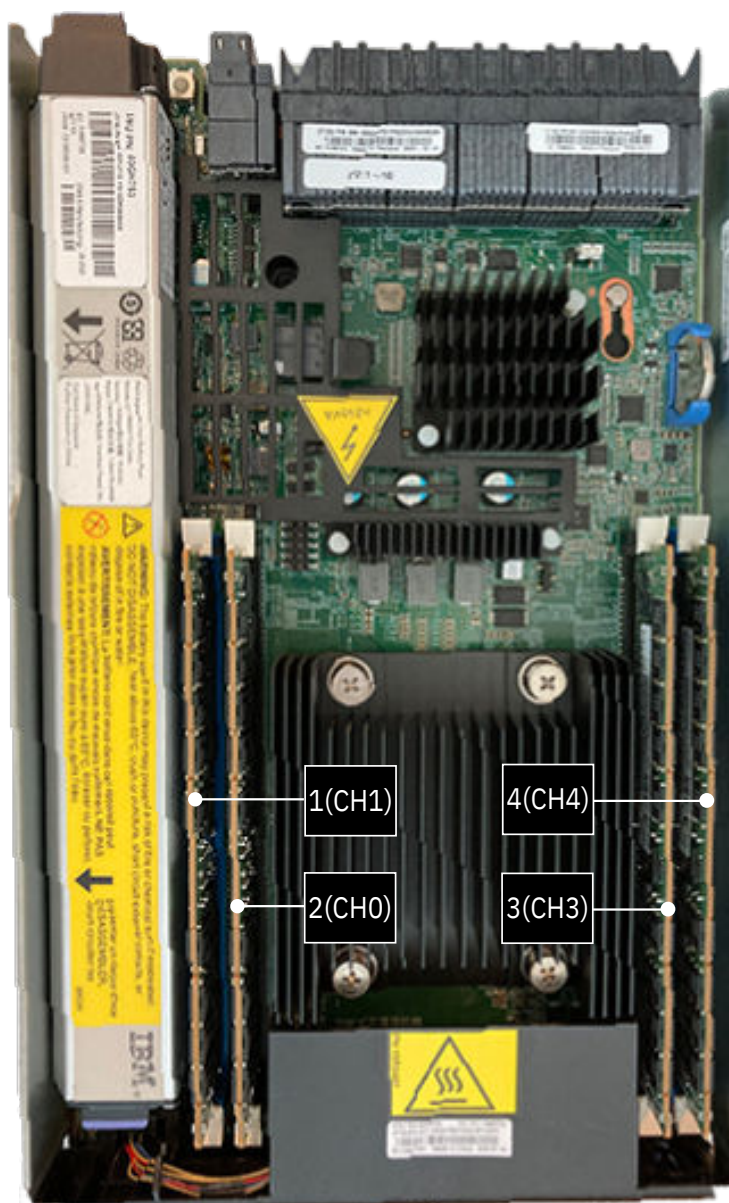

Figure 76. Location and numbering of the DIMM slots
Figure 76 on page 134 illustrates the physical layout of the four DIMM slots and CPU as present inside the node canister. DIMM slot numbering, as seen in this figure, also appears embossed on the adjacent fan assembly.
- If a node error 510 is logged and event ID 073510, the sense data includes information such as, the detected size of the DIMM in slot 1, 2, 3 and 4, followed by the expected size for each slot. Compare each detected capacity with the expected size to determine which DIMMs are faulty. See Table 49 on page 135 for permitted configurations and Figure 76 on page 134 for the physical location of each DIMM slot inside the node canister.
6. Refer to Figure 76 on page 134 to locate the appropriate DIMM slot.